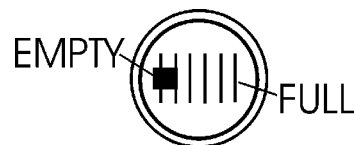

Figure 9. Fuel Gauge
3. Read the fuel gauge located on top of the fuel tank (Figure 9) to determine if the fuel level is low. If fuel is low, replenish with **clean unleaded fuel**.